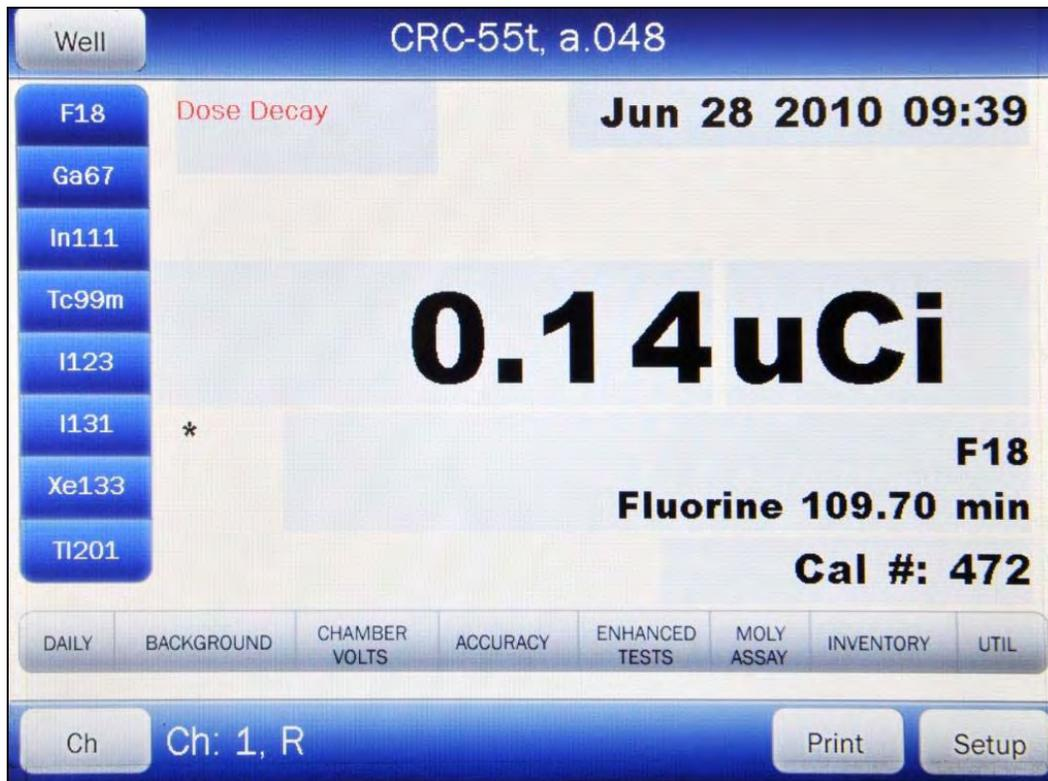
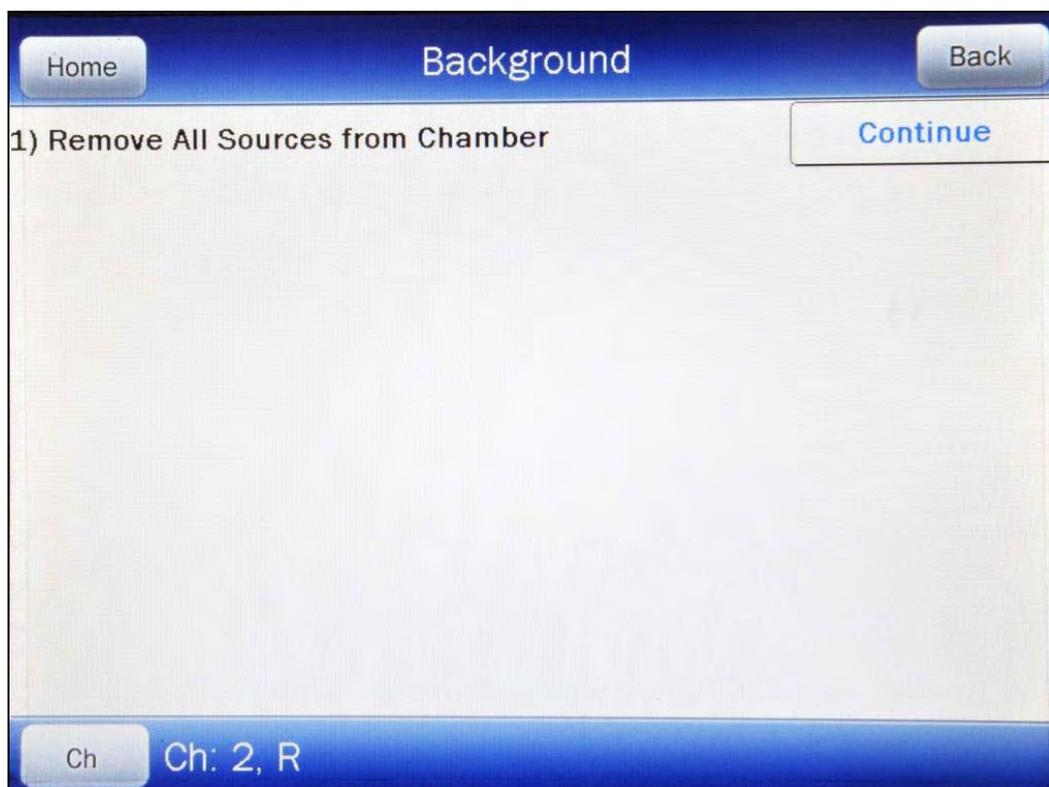
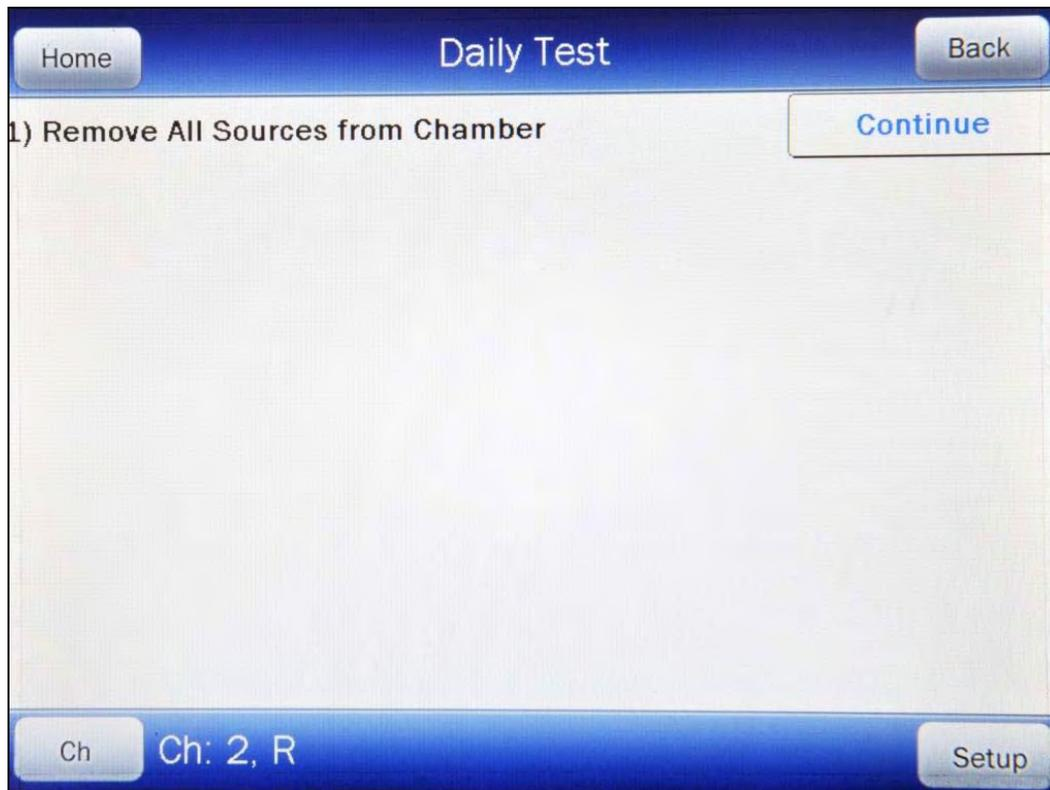
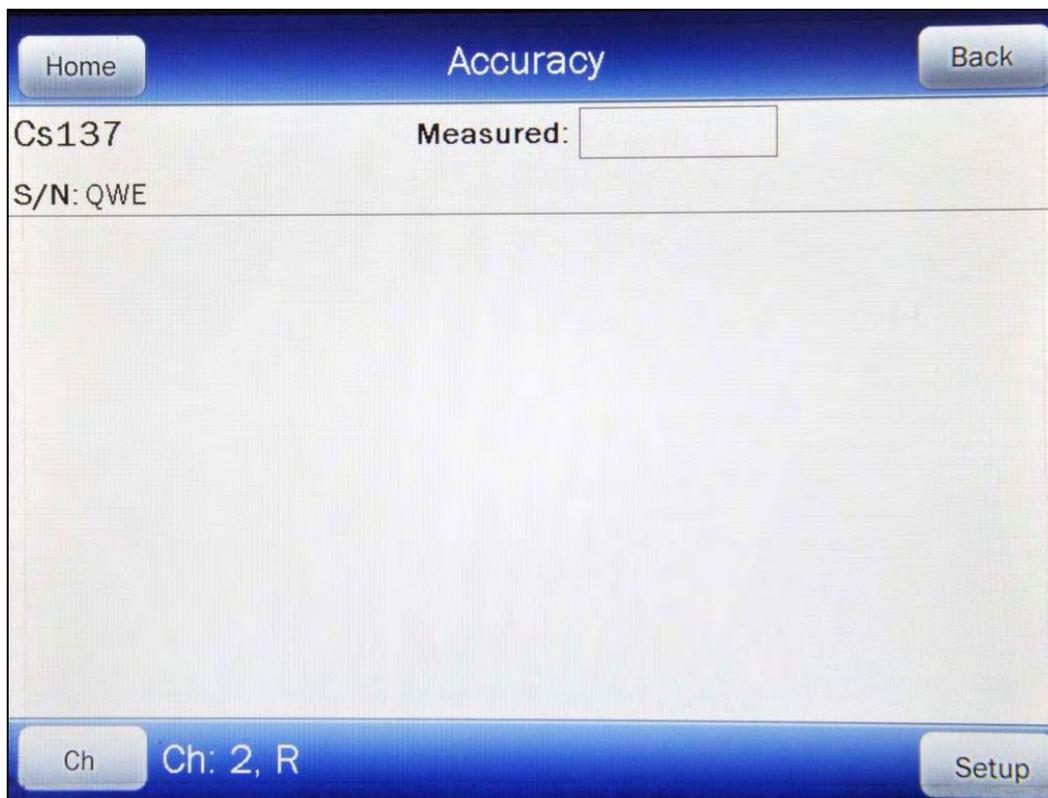

Figure 8-1 Chamber Measurement Screen
Figure 8-2 Background Remove Sources Screen
Figure 8-6 Daily Test Screen
Figure 8-12 Accuracy Test Screen
Background measurements are performed by touching the **BACKGROUND** button from Figure 8-1 Chamber Measurement Screen for the selected Chamber (Background measurement is also part of the Daily Test – reference this chapter, SECTION: Background on page 8-8). Figure 8-2 Background Remove Sources Screen will appear.
Touch the **HOME** or **BACK** button to accept the result and return to Figure 8-1 Chamber Measurement Screen.
To perform the Daily Test, touch the **DAILY** button from Figure 8-1 Chamber Measurement Screen for the selected Chamber. Figure 8-6 Daily Test Screen will appear.
- Touch the **HOME** button to exit the Daily Test and return to Figure 8-1 Chamber Measurement Screen.
To perform the Chamber Voltage Test, touch the **CHAMBER VOLTS** button from Figure 8-1 Chamber Measurement Screen for the selected Chamber. A progress bar will appear until the measurement is available.
Touch the **HOME** or **BACK** button to accept the result. Figure 8-1 Chamber Measurement Screen will re-appear.
The Accuracy Test can be made directly from Figure 8-1 Chamber Measurement Screen for the selected Chamber by touching the **ACCURACY** button and duplicates the Accuracy Test performed in the Daily Test. Figure 8-12 Accuracy Test Screen will appear. The actual Test Sources and serial numbers will, of course, depend upon how the test was initially defined.
- If performing the Accuracy Test from within Daily Test, touch the **BACK** button to exit the Accuracy Test and return to Figure 8-6 Daily Test Screen.